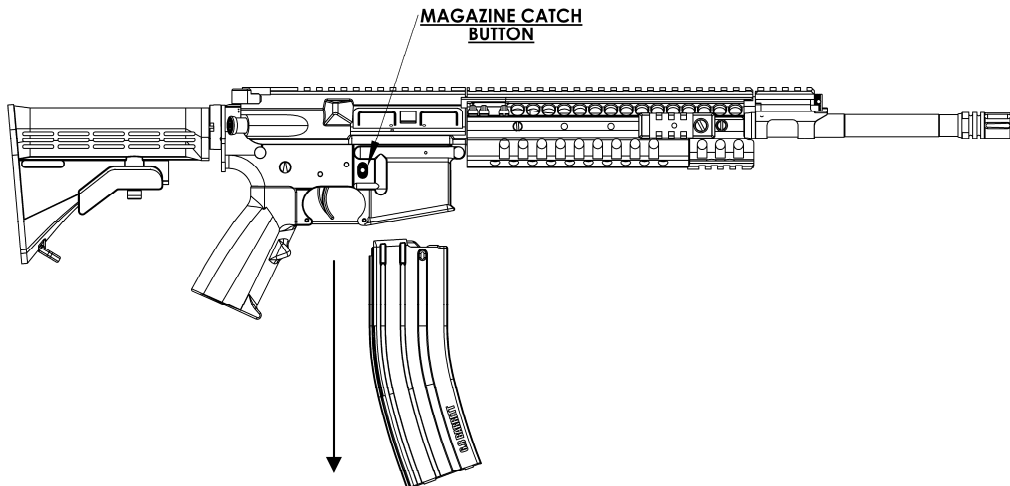

Figure 8.
2. Remove the magazine by depressing the magazine catch button and assisting the cartridge magazine down. (Figure 8).